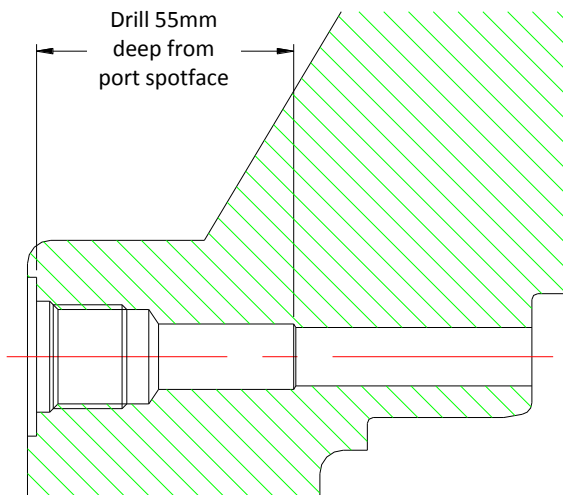

Figure 2
2. Drill the brake housing as shown Figure 2, using a ½” drill and the B8099 drill bushing as a guide.